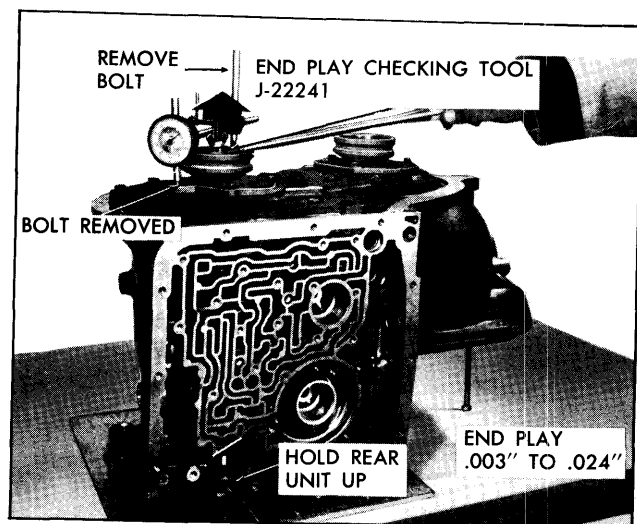

Fig. 7E-62 Checking Front Unit End Play
4. Inspect input shaft for open lubrication holes. Run a tag wire through the holes to be sure they are open. See lubrication chart for location of holes. (Fig. 7E-231)
- c. Using J-6133-A, drive the bearing assembly onto the hub of the sprocket until it is resting on the bearing seat of the sprocket. (Fig. 7E-61)
3. Install two hook type oil seal rings on turbine shaft. (Fig. 7E-58)